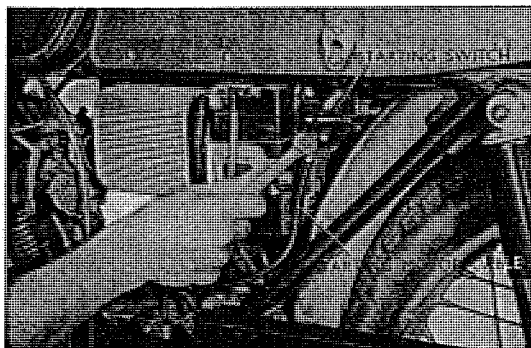

Fig. 3.7 Removing the starting motor cable
8. Remove the starting motor cable from the switch connecting section. (Refer to Fig. 3.7)